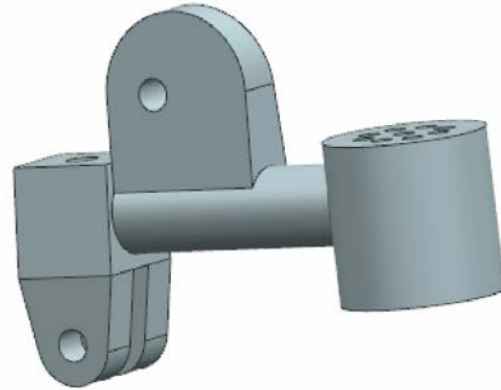

Figure 13-134 Resultant model
- Enter **60** in the **Distance** edit box of the **Distance** rollout and press ENTER; a preview of the resultant model is displayed. Next, choose **OK** to accept the changes. The resultant model is shown in Figure 13-134.